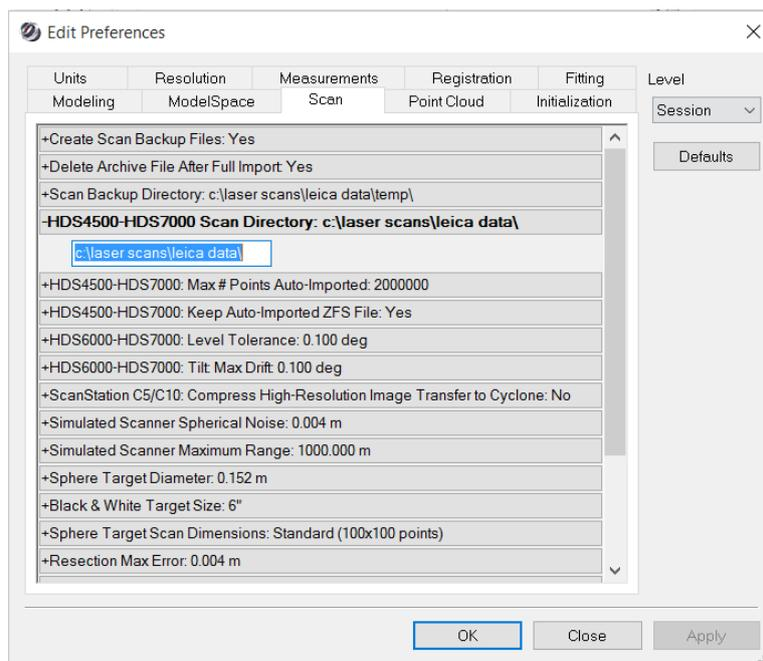

Figure 5. Cyclone Preferences window.
- Right click on **Servers** folder, the menu will appear. See Figure 5.